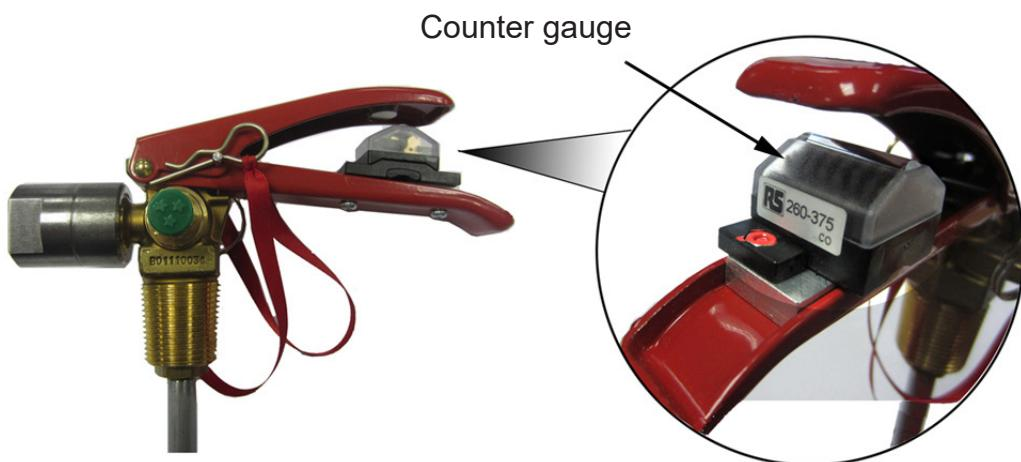

FIGURE 509
- (c) Install the new blast test cylinder valve assembly handle, complete with a counter gauge. Refer to FIGURE 509.